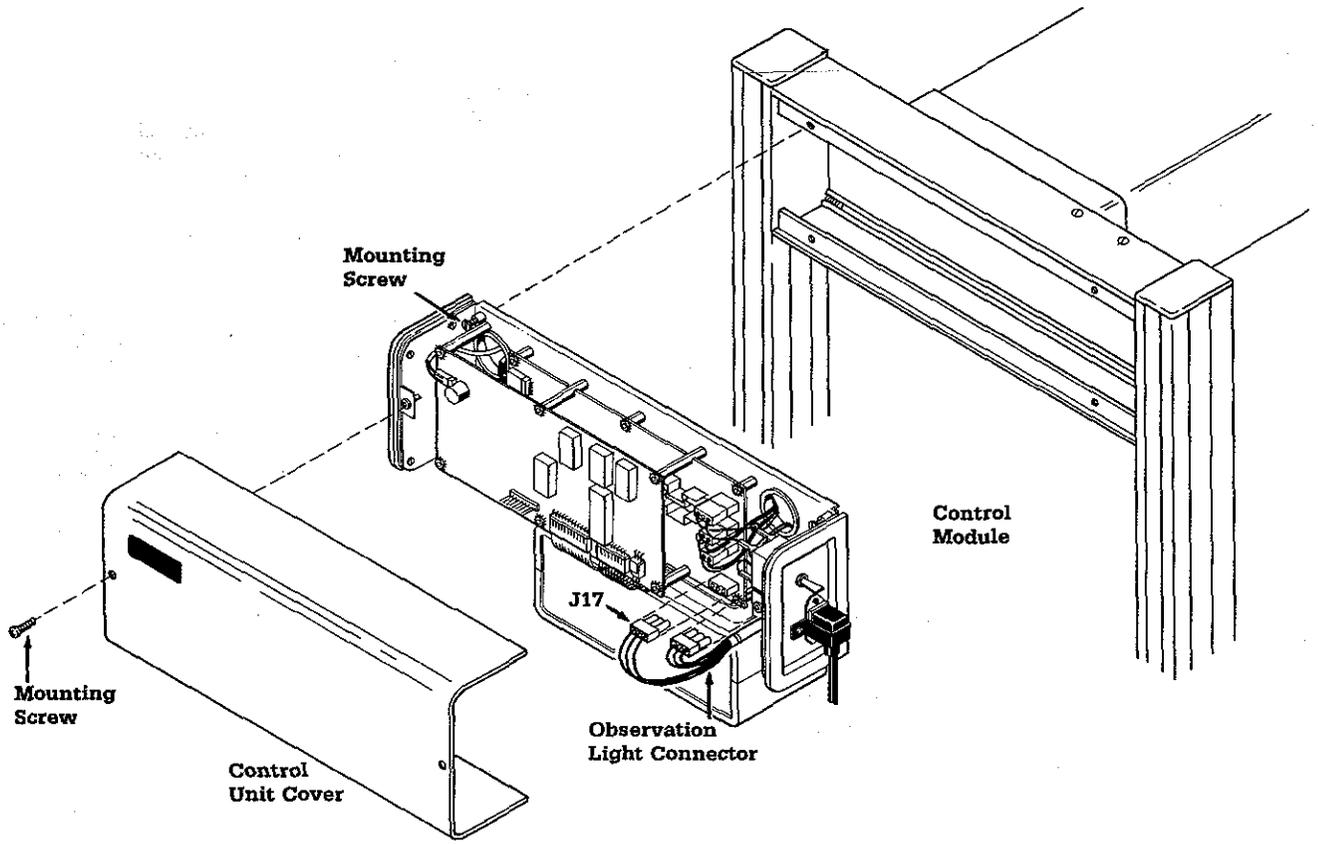

Figure 5-6
A. Control Module Removal (Figure 5-6)
E. Control Module Replacement (Figure 5-6)
F. Battery Replacement (Figures 5-6 and 5-7)